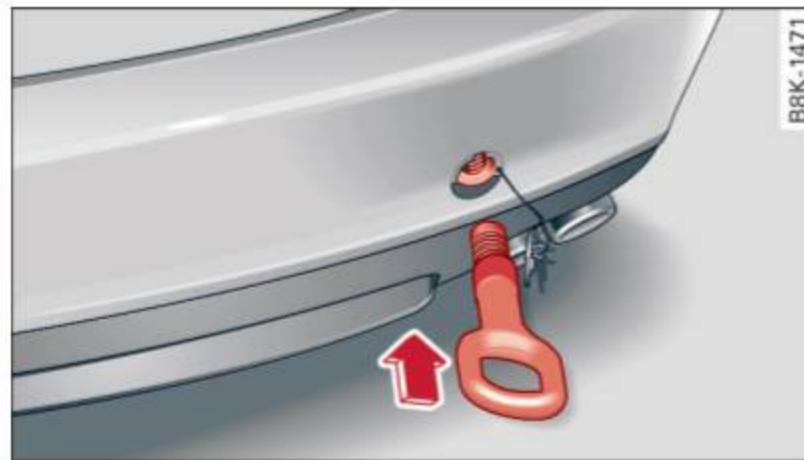

Fig. 199 Rear bumper: Screwing in towing loop
- ▶ Press the cover in by applying short strong pressure to the bottom part to release it from the bumper ⇒ *fig. 199*.